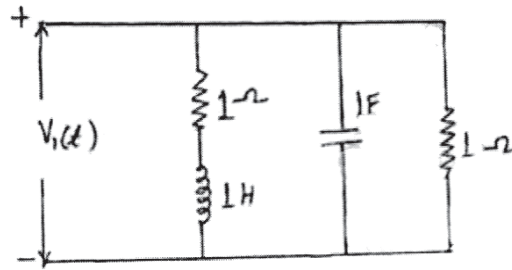

Fig. 11
- b) Determine Driving Point Admittance function $Y_{11}(s)$ for the network in Fig. 11 and hence draw pole zero plot of $Y_{11}(s)$. [6]